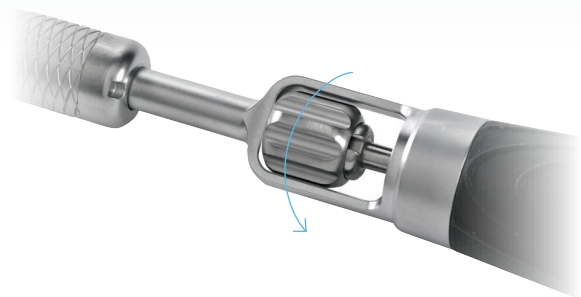

Figure 24:
- Remove the inserter tip by turning the inserter handle thumbwheel counterclockwise (**Figure 24**).